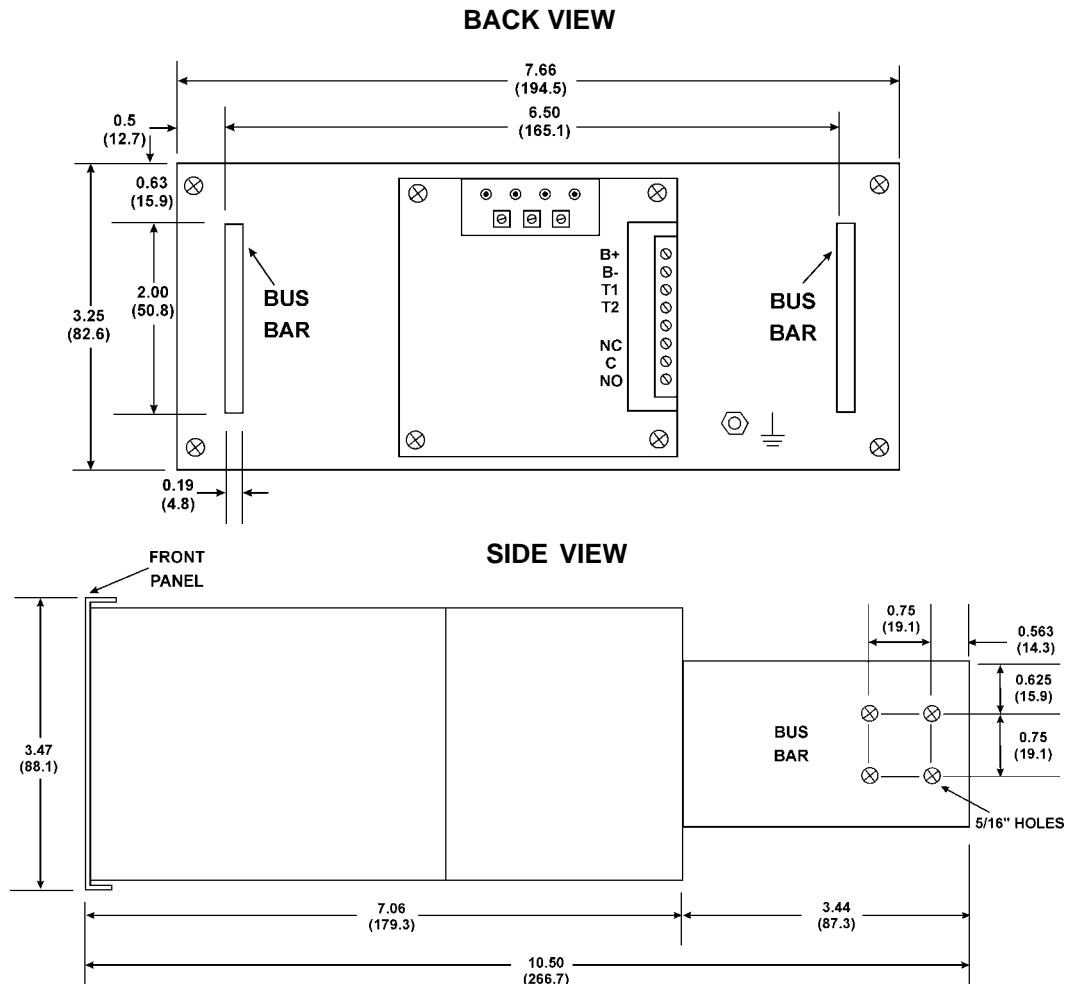

Figure 3. Back and Side Views of LVD400/600
9.2 The LVD400/600 is connected between the a rectifier and battery or load. The contactor is therefore either in series with the rectifier and load or the rectifier and battery. If the battery voltage drops to approximately 42.5V for a 48V battery or 21.25V for a 24V battery, the contactor opens, removing the load from the rectifier and battery or, alternatively, removing the battery from the rectifier and loads. The disconnect contactor is rated at 400 or 600 amperes (depending on model). See Figures 3 and 4.
11.1 Back and side views of the LVD400/600 are shown in Figure 3. The LVD400/600 can be connected for either load or battery disconnect.